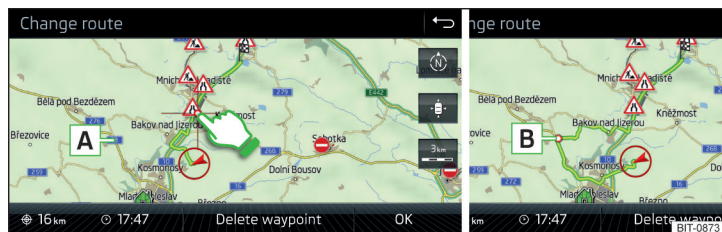

Fig. 237 Route change in the map / route transit point
- ▶ Touch the screen in the route field and move the cross-point to the desired location on the map, e.g. **A**, move » Fig. 237.
The transit point **B** is added to the route » Fig. 237.